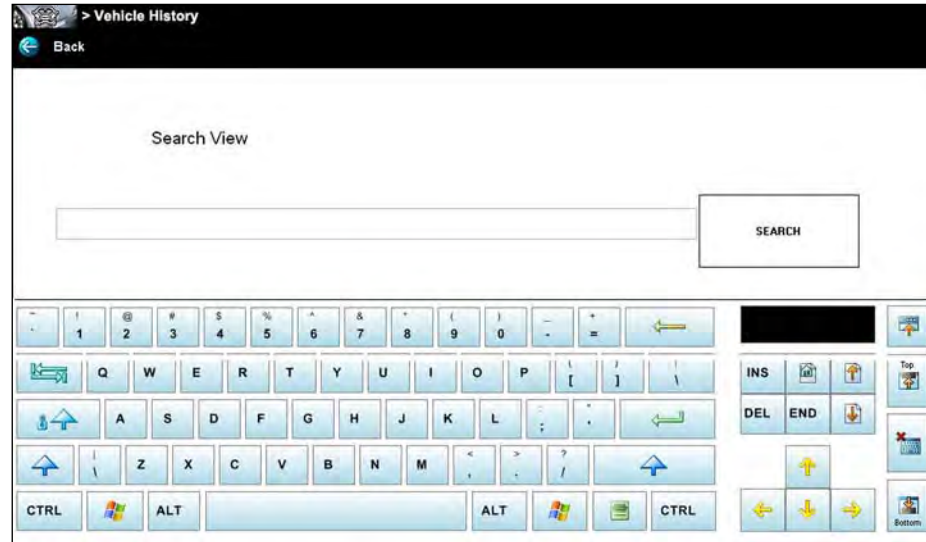

Figure 9-4 Sample Search dialog box
2. Enter the search criteria in the text field (Figure 9-4).